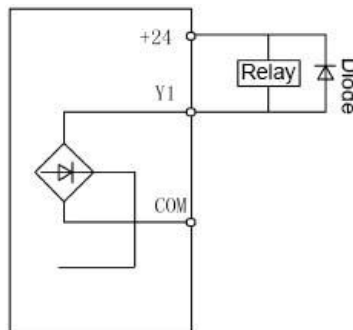

Figure 4-14 Digital Output Terminal Wiring Schematic Diagram
**Note: Be sure to install the polarity of the snubber diode correctly. As in Figure 4-14. Otherwise the DC 24V power supply will be burned out immediately when there is output from the digital output terminals.**